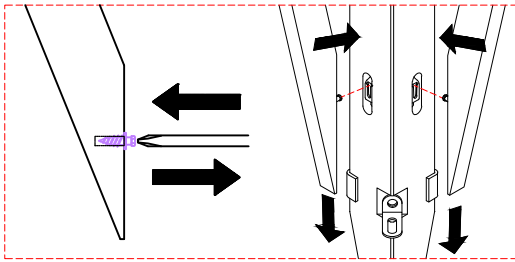

Figure 5
5. Then attach Table Top on the Leg frame of Step 4 by using Flat washer (F), Lock Washer (E), Bolt (D) and Bolt (C) with Allen Key (G). (See Figure 5). Tighten all bolts with Allen Key (G).